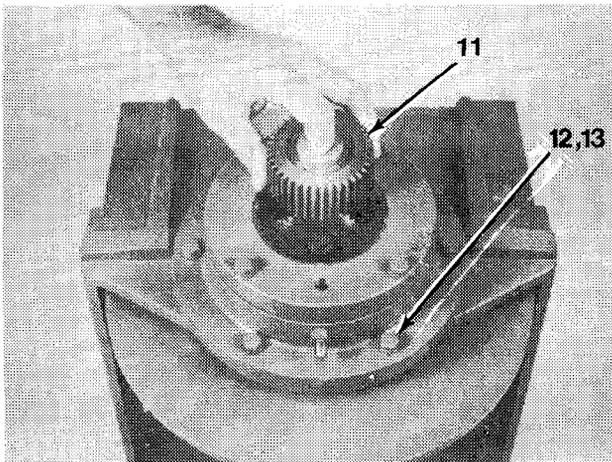
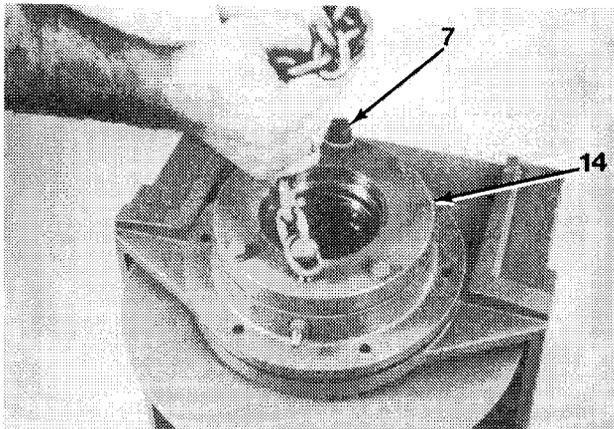

Figure 16-4
Figure 16-5
7. Remove brake clutch assembly (11, Figure 16-4) from motor support.
8. Remove six cap screws (12) and lockwashers (13).
9. Install two cap screws (7, Figure 16-5) and a short piece of chain into motor mounting bolt holes.